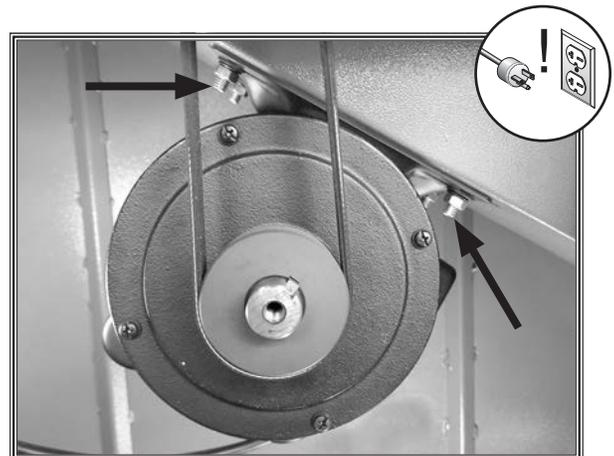

Figure 60. Location of motor mount fasteners (3 of 4 shown).
3. Loosen motor mount fasteners shown in **Figure 60**. DO NOT completely remove motor mount fasteners.
4. Press down on motor to keep tension on belt, and then tighten motor mount bracket fasteners (see **Figure 60**),
3. Loosen motor mount bracket fasteners shown in **Figure 60**.